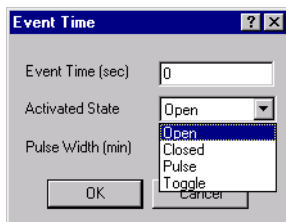

Figure 3-16 Selecting the Activated State of a Timed Event
e. Select an activated state from the Activated State list (Figure 3-16).